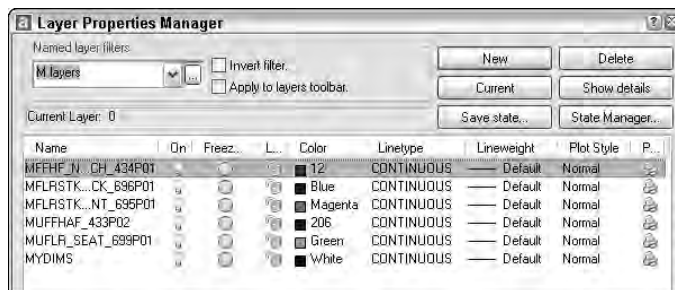

Figure 11-18: The Layer Properties Manager now shows only layers starting with the letter *M*.
3. Choose **Layer Properties Manager** from the **Layers** toolbar to open the **Layer Properties Manager**. Next to the **Named layer filters** drop-down arrow, click the ellipsis button. In the **Filter name** text box, type **M layers**. In the **Layer Name** box, type **m*** to list all layers starting with the letter **m**. Click **Add**, and then click **Close**. In the **Layer Properties Manager**, click the drop-down list arrow and choose **M layers**. The list now looks like Figure 11-18.